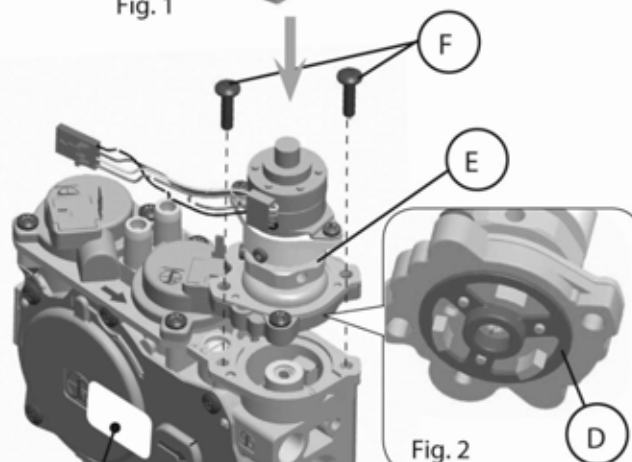

Fig. 2
- 3 Ensure the rubber gasket (D), which is prefitted as part of assembly (E), is properly positioned, see Fig. 2, otherwise fit the gasket as shown Fig. 2.